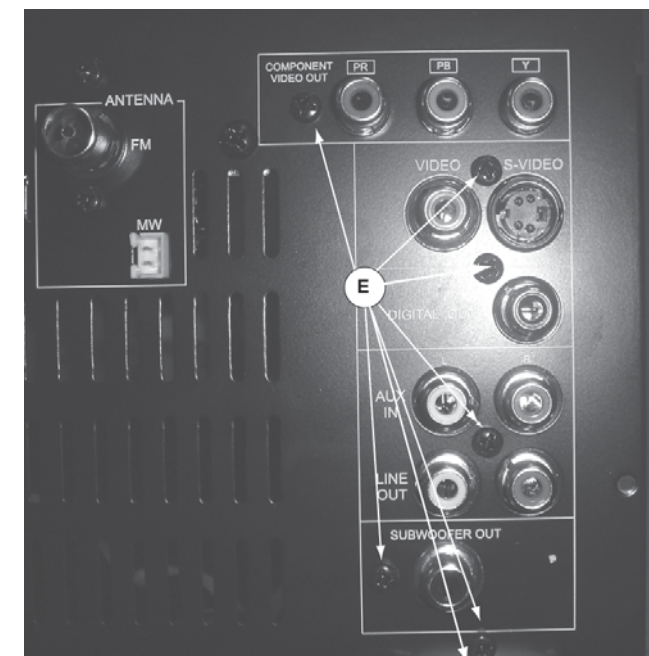

Figure 9
- 1) Release 7 screws 'E' to free the Main board from the back panel Assembly as shown in Figure 9.